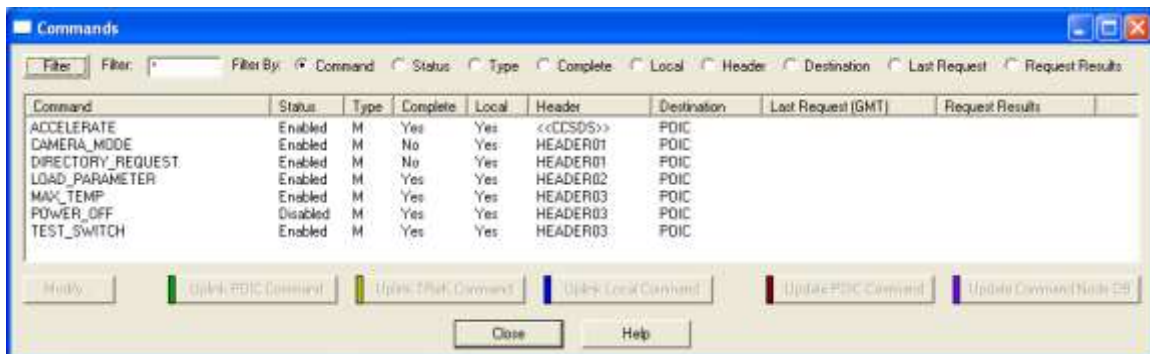

Figure 31 Commands Dialog
13. Go to the **Command Processing** application, select the **Command** menu, and then select the **Commands** menu item. This will display the Commands dialog shown in Figure 31.